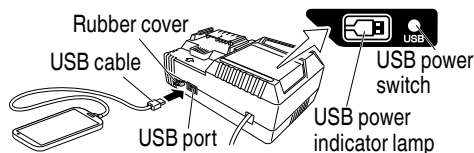

Fig. 9
- (2) Turn the USB power switch ON (Fig. 9)
- (3) Connect the USB cable. (Fig. 9)
- (4) When charging is completed
- Turn the USB power switch OFF and unplug the power cord from the electrical outlet. (Fig. 9)